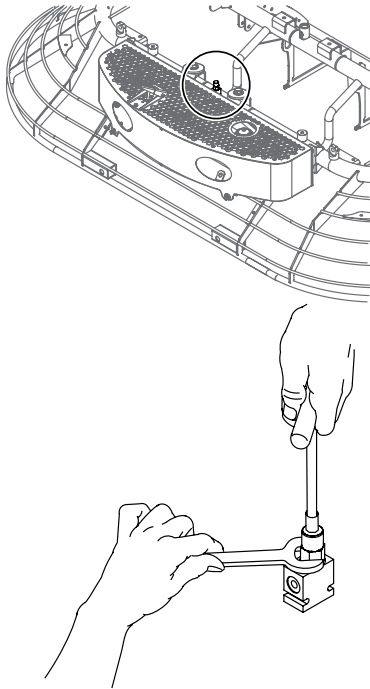

Figure 59. Steering Pressure Adjustment
2. Loosen the jam nut on the pilot relief valve (Figure 59).